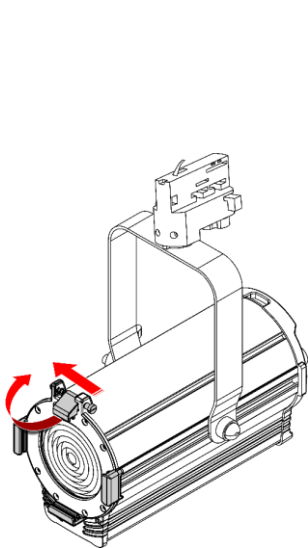

Fig. 13
- 01) Push the **spring-loaded screw (09)** and at the same time lift and flip backwards the **color frame clip (08)** (see Fig. 13).